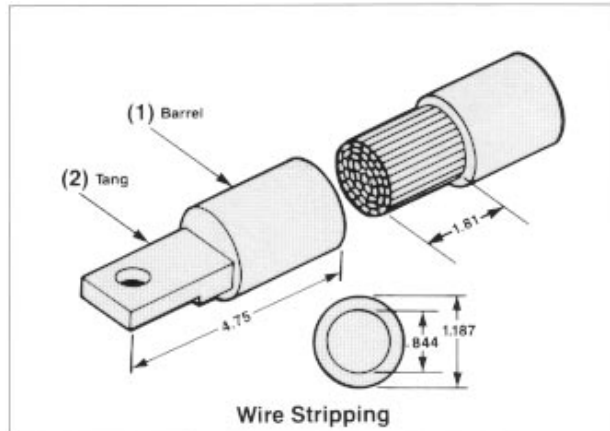

Figure 1
- Preform cables to final configuration and strip insulation back 1 13/16 in. on each conductor. Use an appropriate insulation stripping tool to avoid damaging the conductor (Figure 1).
- Remove cap from compression connector and insert cable fully into barrel (1) (Figure 1) of connector.
- Insure that connector tang(s) (2) (Figure 1) are in their proper orientation prior to crimping. This helps avoid twisting of cables during installation.